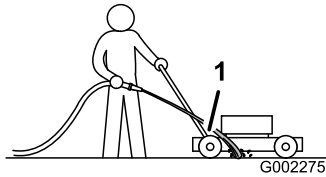

Figure 35
3. Hold the running garden hose at handle level and direct the water to flow on the ground just in front of the **right** rear wheel (Figure 35).